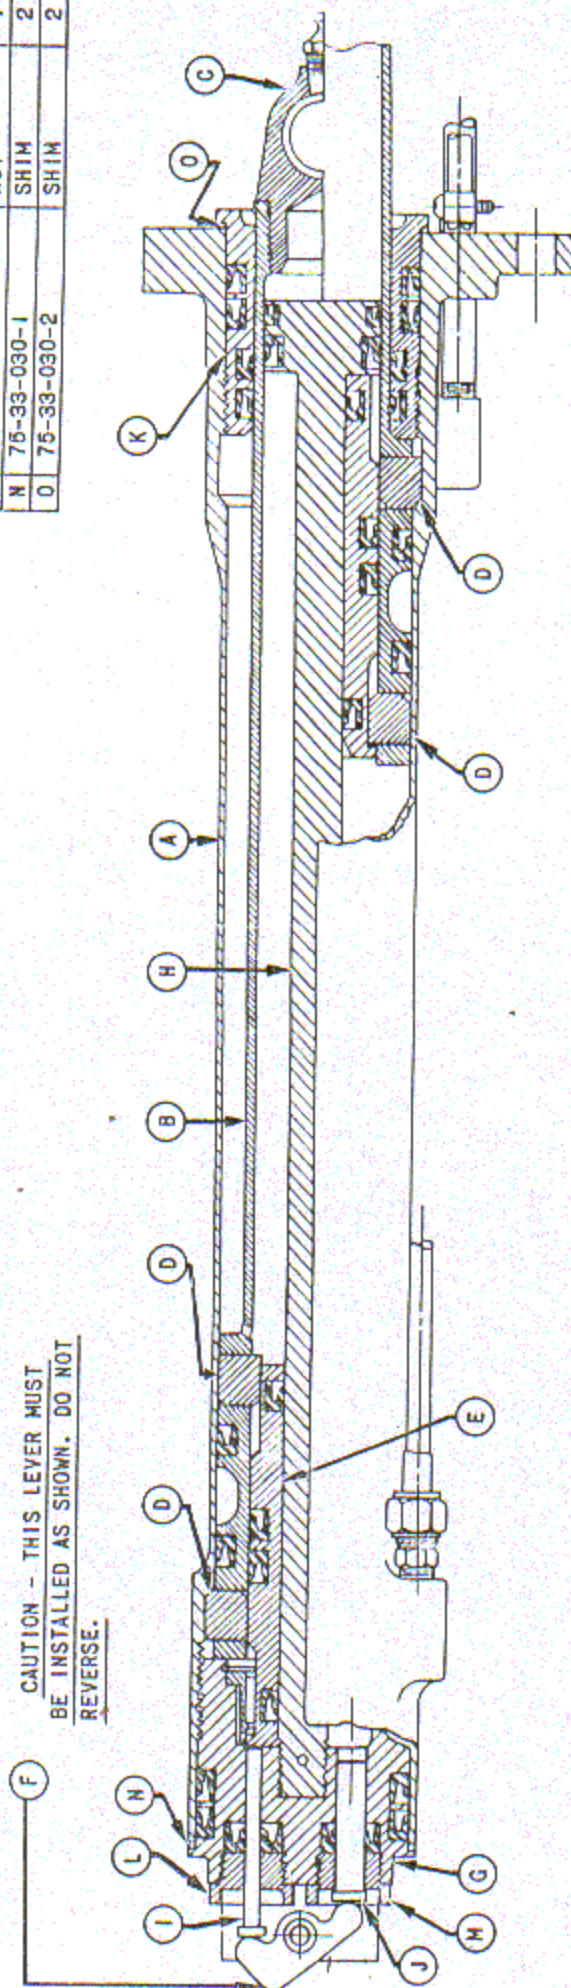

FIG. 86 - LANDING GEAR - RETRACTING STRUT
(b) Figure 86 shows a section through the upper half of the retracting cylinder with the piston and pawl at the left or forward end (landing gear down), and a section through the lower half with the piston and pawl to the right or rear (landing gear up).
(6) To Disassemble and Assemble the Landing Gear Retracting Cylinder: (a) To disassemble the landing gear retracting cylinder, see Figure 86 remove the piston end. Then remove warning switch actuating rocker "F" so that a bar may be inserted in the slot to unscrew the cylinder cap "G". Cylinder cap, piston and all internal parts should then be removed together. Care must be taken in pulling out shaft "H" from the inside of piston so that the packings are not fouled in the square broached holes.